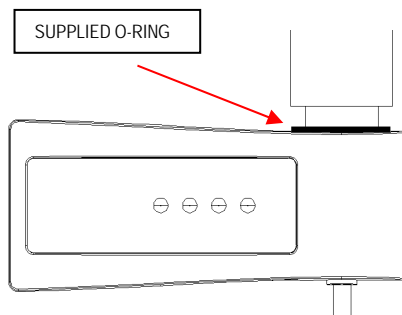

Fig. 6
4. Fit WHISTLE to the connection on the electric heating element (Fig. 6), pressing the controller until it is fully inserted and the supplied O- RING fully compressed. Make sure the wires go all the way into the WHISTLE and do not stick in the first part of the hole.
5. Tighten the hex screw keeping the Whistle pressed to the heating element; Be sure to keep the supplied O- RING fully compressed during the operation (Fig.6). The hex screw must disappear to the edge of the plastic. Close until it lock.